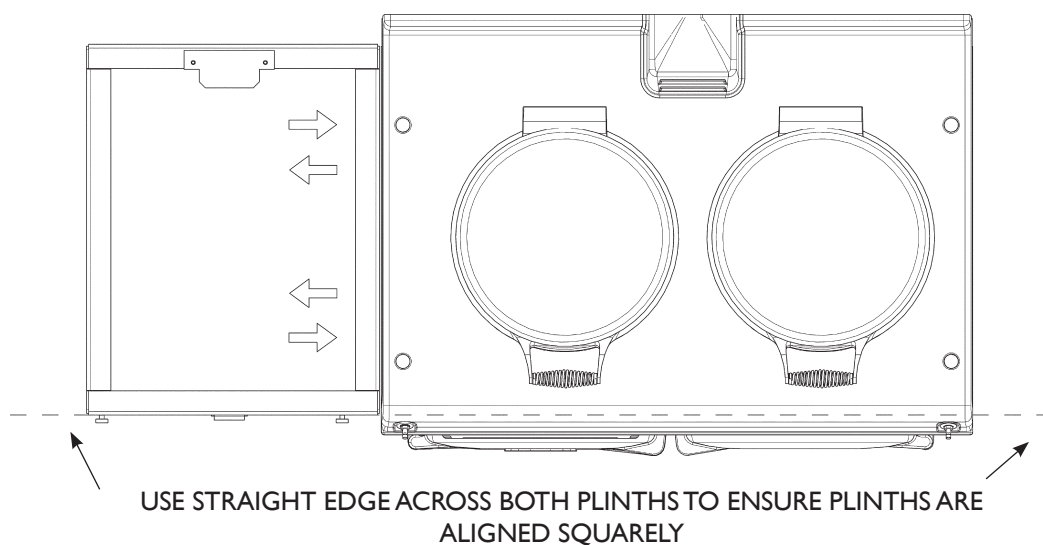

Fig. 5.5
4. Run a straight edge along the front of the AGA Signature (eR7) plinth, to ensure the front face of both plinths sit squarely against the straight edge. (**Fig. 5.5**)